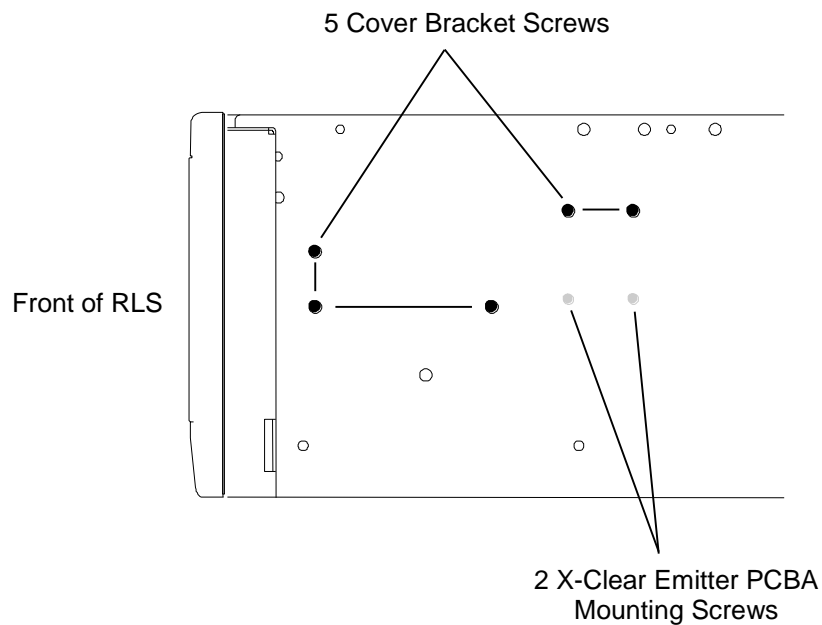

Figure 7-35 The X-Clear Emitter PCBA Screws on the Right Side of the RLS
2. Using a No. 2 Phillips screwdriver, remove the five screws from the right side of the RLS that hold the Cover Bracket in place. Remove the cover and set it aside. See Figure 7-35.
4. Using a No. 1 Phillips screwdriver, remove the two screws from the right side of the RLS that hold the PCBA in place. See Figure 7-35.
1. Align the threaded inserts in the PCBA with the mounting holes in the right side of the library's chassis and use a No. 1 Phillips screwdriver to reinstall the two flat-head mounting screws. See Figure 7-35.
3. Align the mounting screw threaded inserts in the cover with the mounting holes in the right side of the library's chassis and use a No. 2 Phillips screwdriver to reinstall the Cover Bracket with five flat-head screws. See Figure 7-35.